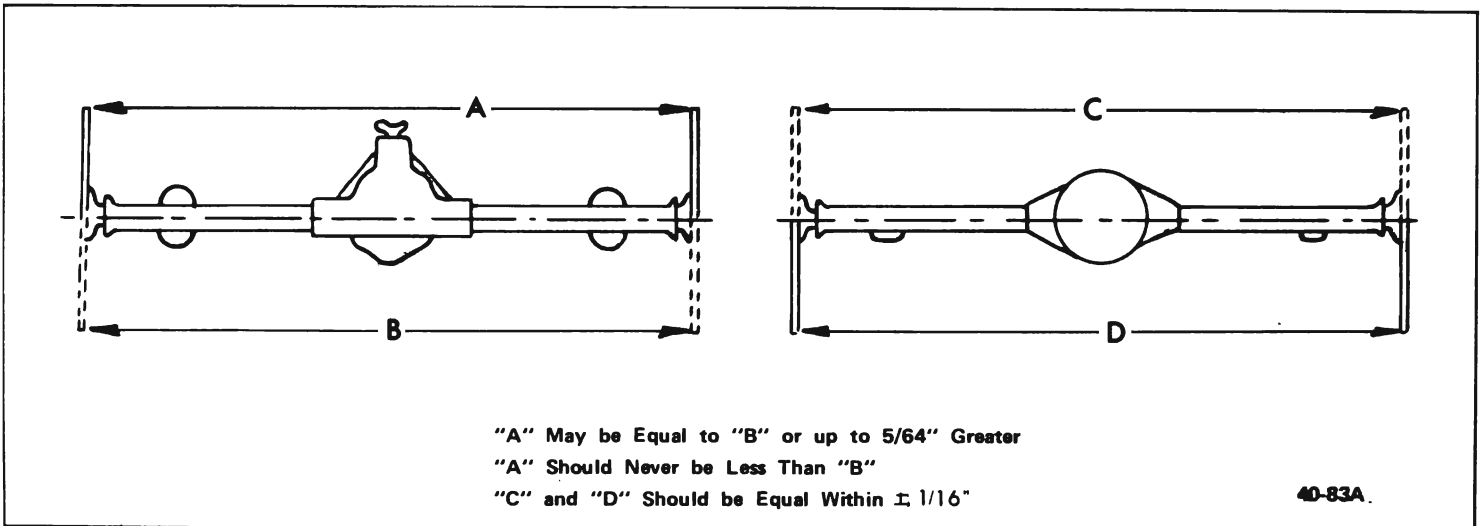

Figure 40-165 Checking Rear Axle
7. Rotate tools 180° by turning pinion and measure again. The tolerances are shown in Figure 40-165.
9. Rotate tools 180° by turning pinion and measure again. The tolerances are shown in Figure 40-165.